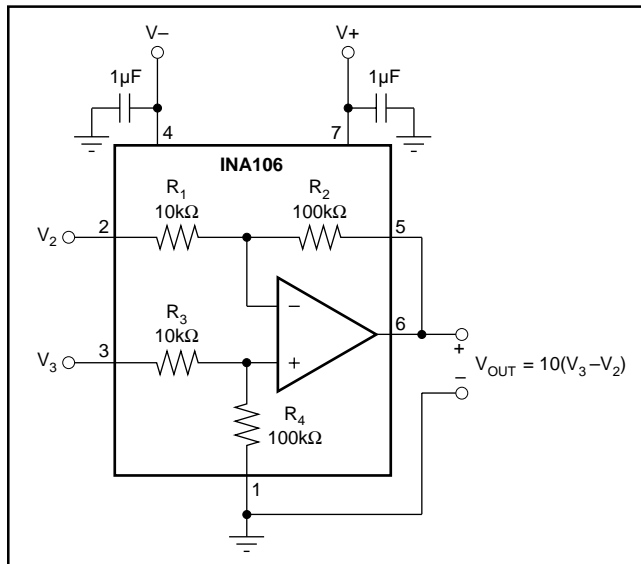

FIGURE 1. Basic Power Supply and Signal Connections.
NOTES: (1) Connected as difference amplifier (see Figure 1). (2) Nonlinearity is the maximum peak deviation from the best-fit straight line as a percent of full-scale peak-to-peak output. (3) With zero source impedance (see "Maintaining CMR" section). (4) Includes effects of amplifiers' input bias and offset currents. (5) Includes effect of amplifier's input current noise and thermal noise contribution of resistor network.
Figure 1 shows the basic connections required for operation of the INA106. Power supply bypass capacitors should be connected close to the device pins as shown.
Referring to Figure 1, the CMR depends upon the match of the internal R_4/R_3 ratio to the R_1/R_2 ratio. A CMR of 106dB requires resistor matching of 0.005%. To maintain high CMR over temperature, the resistor TCR tracking must be better than $2\text{ppm}/^\circ\text{C}$. These accuracies are difficult and expensive to reliably achieve with discrete components.